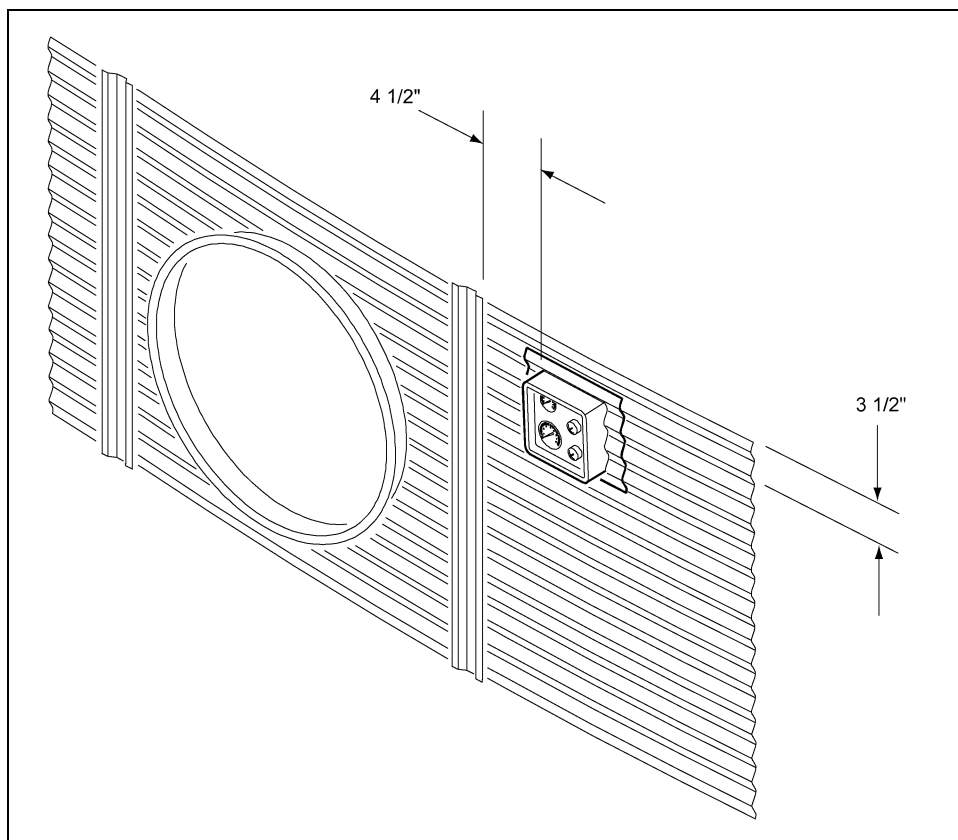

Figure 4A
1. Locate the mounting position of the thermostat as shown in Figure 4A.